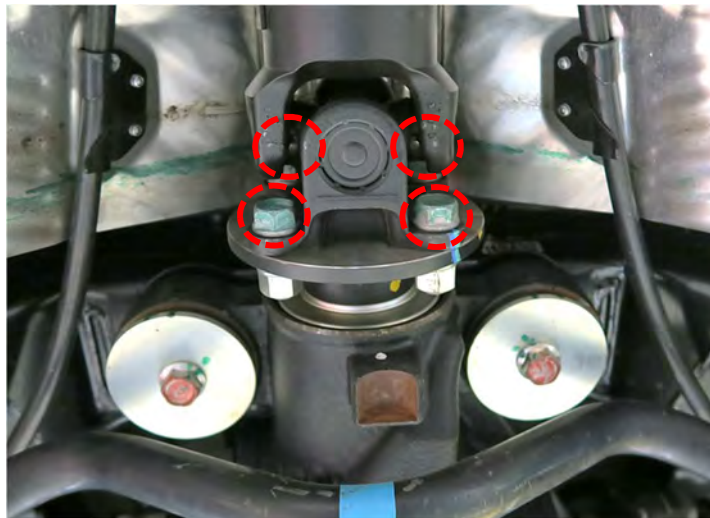

Figure 12
14. Using (2) 17mm wrenches, loosen and remove the (4) propeller shaft bolts and nuts. (Figure 12)